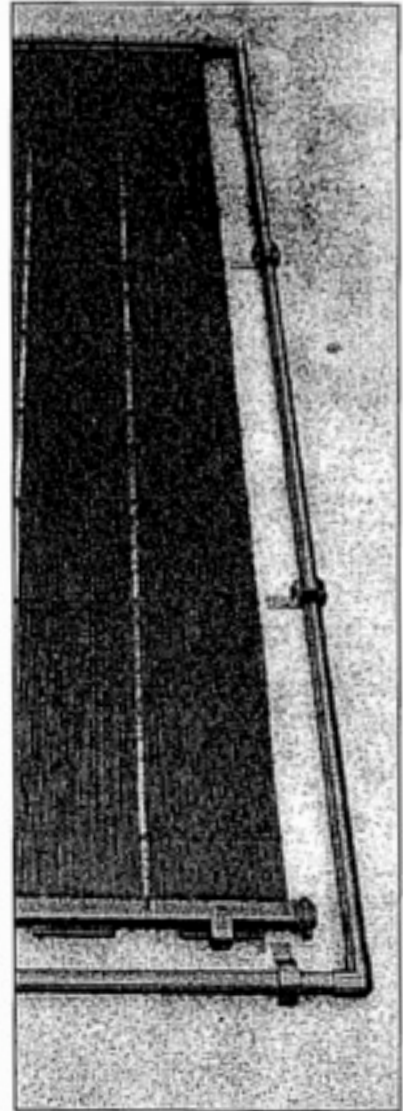

FIG. 12.1
1. Cement the appropriate size PVC 90° elbow to the return line stub facing down toward the bottom header. (see Fig. 12.1 on page X).